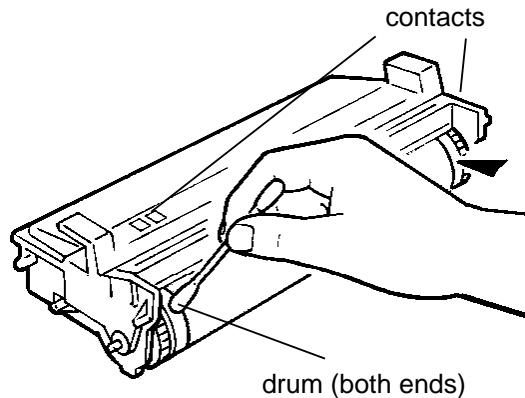

Figure 12. Drum Module
- a. Inspect or clean the contacts on the top and rear of the drum module using a cotton swab (Figure 12).
- b. Inspect or clean the bare metal ends of the drum using a cotton swab (Figure 12).